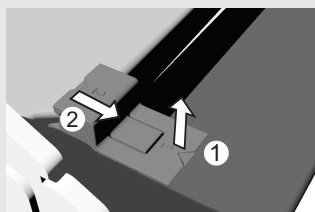

figure 1
- Slightly lift the supports on the left and right side of the door (marking 1 on the support) and pull them away from the glass (marking 2 on the support) (see Figure 1).